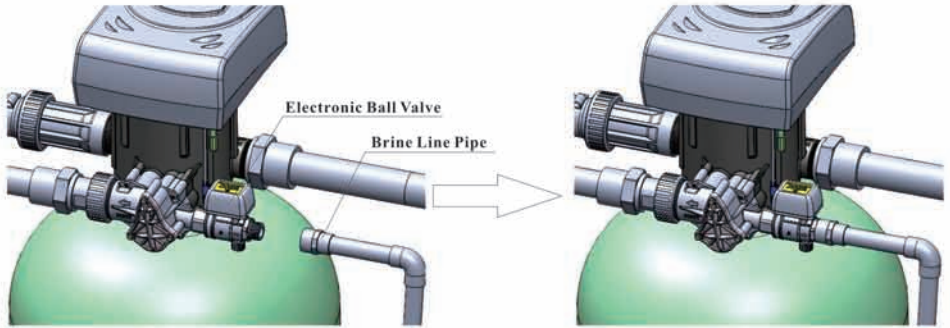

Figure 1-5
⑤ Connect brine tube
a. As Figure 1-5 shows, use UPVC (DN20) to connect brine valve with brine line connector.